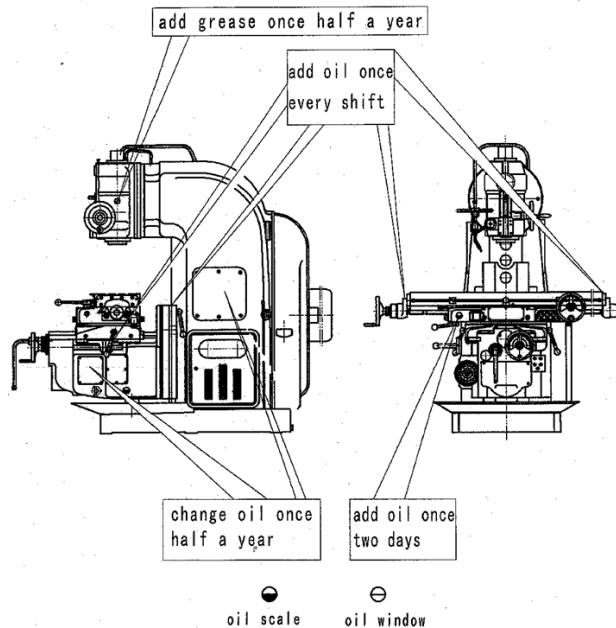

Fig 19
5. Lubricate the machine with clean engine oil according to lubricative figure regularly. (see Fig.19).